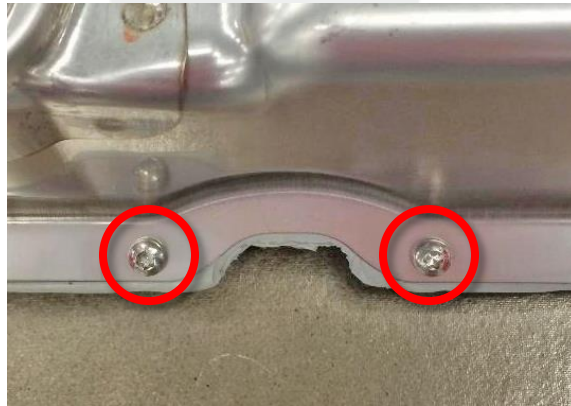

Figure 4
3. Remove and discard the 2 screws that secure the broken aeroshield support tab to the HV Battery (Figure 4).